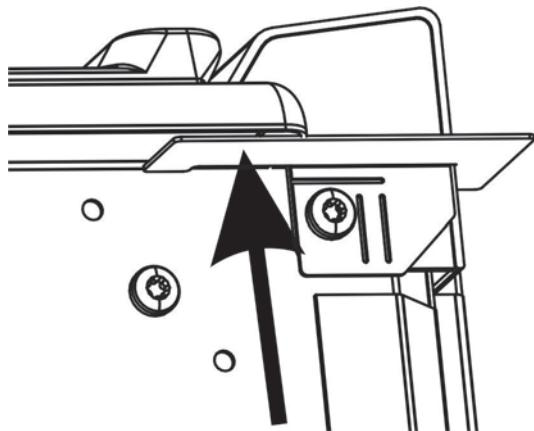

Figure 5: Tighten screw
- Press up on the corner cover at the arrow (see Figure 5: Tighten screw) while finishing the tightening of the screw.